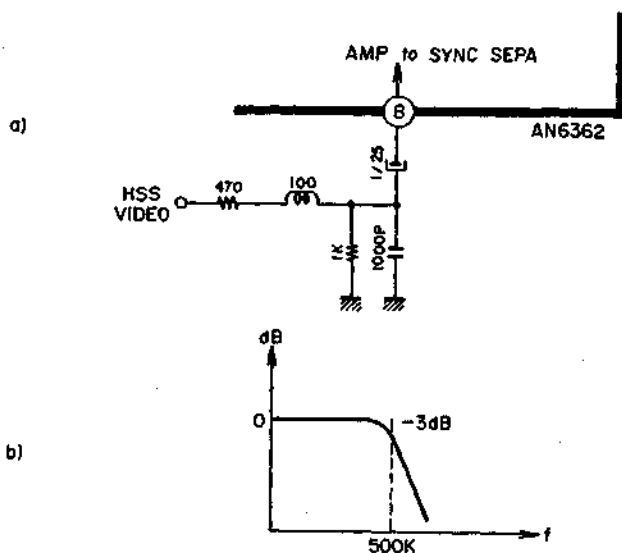

Fig. 96 HSS Video Filter
Pin ⑧ video for HSS is inputted after chroma, noise and other are removed by the filter as shown in Fig. 96. This affects the characteristic of AFC.